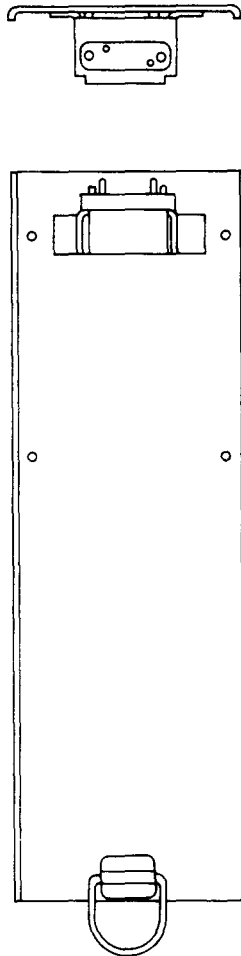

Fig. 22—447A Plug
2.20 447A: The 447A plug (Fig. 22) consists of a 7-pin connector mounted on a metal tray with A and F pins shorted together. The 447A plug is used in the basic, regulator, and equalizing repeater cabinets.